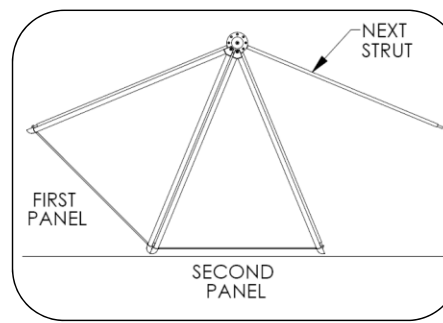

Fig. 7 – Rotate partially assembled unit
8. Rotate umbrella so that second installed panel is in the 6 o'clock position. See Fig. 7.